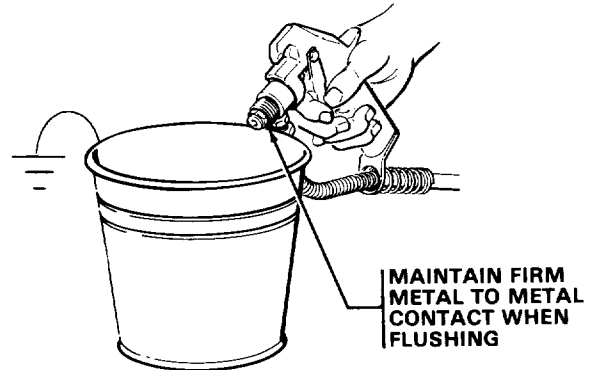

Fig 4
- f. Aim the gun into a grounded metal container and hold a metal part of the gun firmly against the container. See Fig 4. Squeeze the trigger and hold it open, turn the ON/OFF switch to ON, and slowly increase the pressure setting until the sprayer starts. Keep the gun triggered until all air is forced out of the system and the fluid flows freely from the gun. Release the trigger and engage the safety.